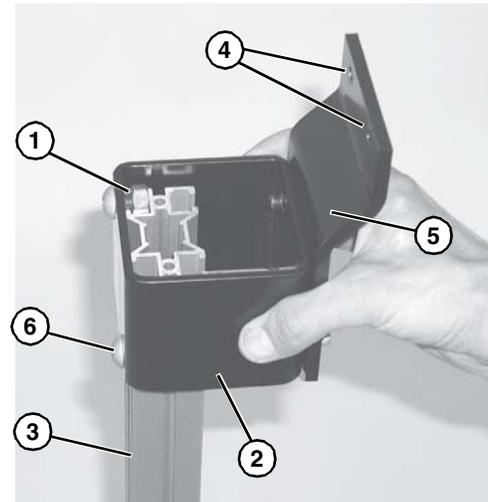

Figure 10
- Align hex nuts (**Figure 10, item 1**) on leg support (**Figure 10, item 2**) to t-slots at top, outside of stand leg (**Figure 10, item 3**). Slide leg support down stand leg until conveyor mounting holes (**Figure 10, item 4**) on pivot bracket (**Figure 10, item 5**) are approximately the same height as the lower t-slots on conveyor. Tighten button head screws (**Figure 10, item 6**) just enough to keep leg support in position.
<p>Failure to secure screws (Figure 10, item 6) may cause conveyor sections to drop down causing severe injury.</p> <p>TIGHTEN SCREWS (Figure 10, item 6) AFTER ADJUSTMENT.</p>
20. Tighten four button head screws (**Figure 10, item 6**) to 17 ft-lb (22.5 N-m).